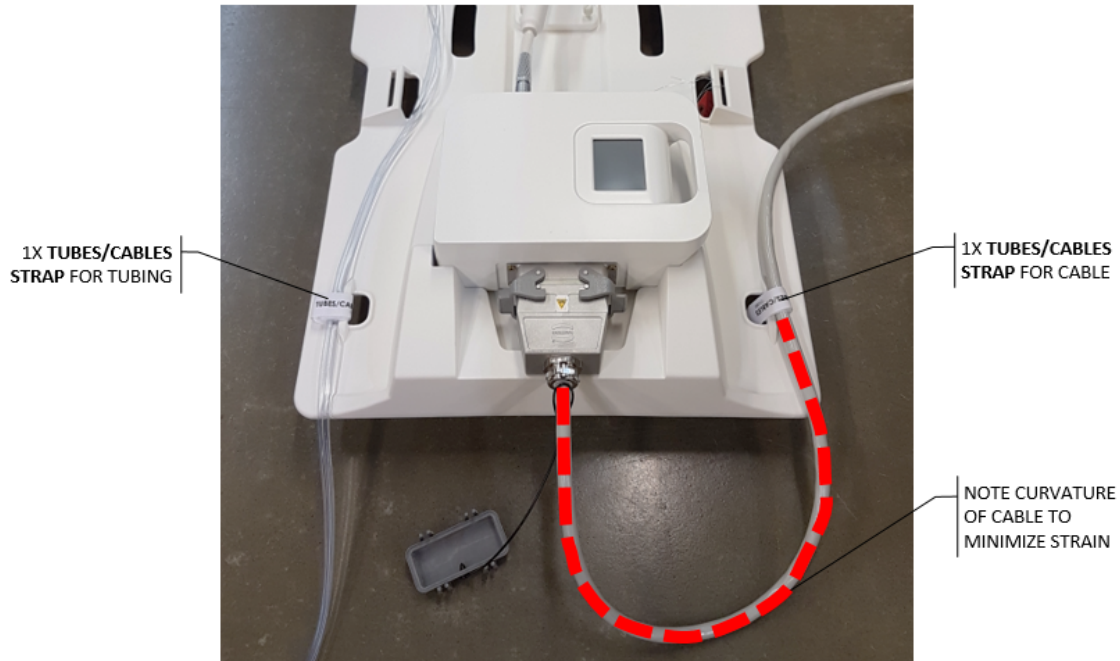

Figure 25: Tube-and-cable straps of base plate: one for tube sets and one for RF cable
4. **MRI Technologist:** Use tube-and-cable straps to manage fluid tubes and the white RF cable as shown in *Figure 25*. Leave some slack to allow the cables to slide freely and to reduce tripping hazards. Ensure no cables, tubing, or other materials can be caught while the MRI table is moving.